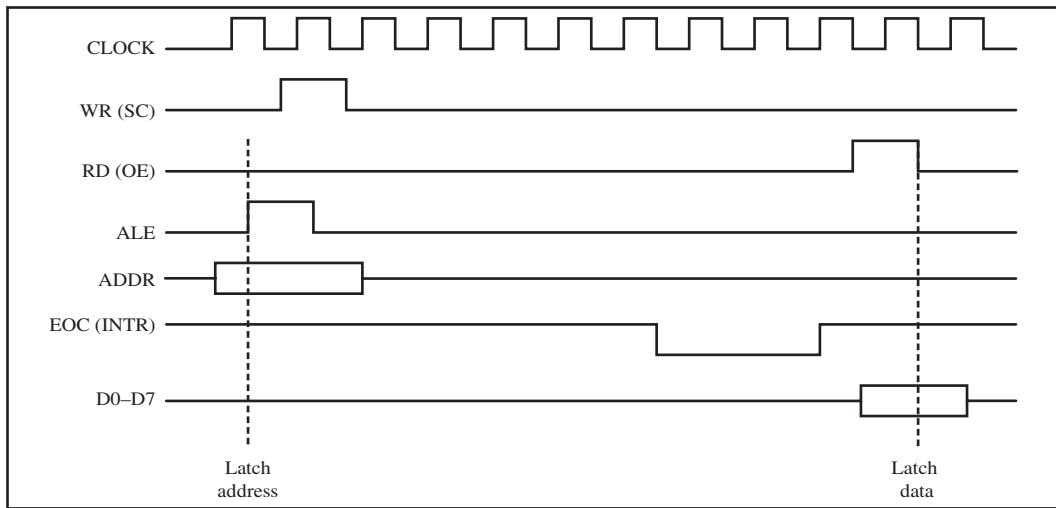

Figure 6. Selecting a Channel and Read Timing for ADC0809
2. Activate the ALE (address latch enable) pin. It needs an L-to-H pulse to latch in the address. See Figure 6.